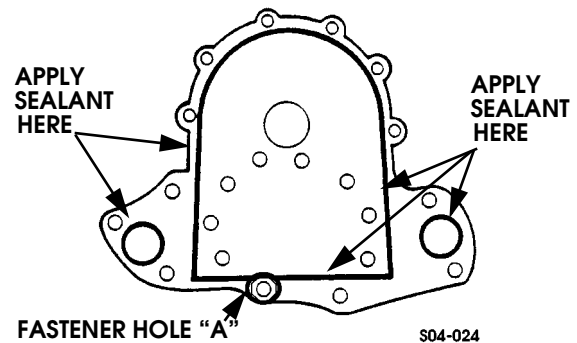

Figure 2-32: Water Pump Adapter Plate Sealer Application Diagram
21. Install water pump and adapter plate. Apply Permatex/Loctite pipe sealing compound, to fastener that goes in hole "A" (Figure 2-32). Tighten pump/adapter bolts to 13-20 lb-ft (18-27 N•m) torque.